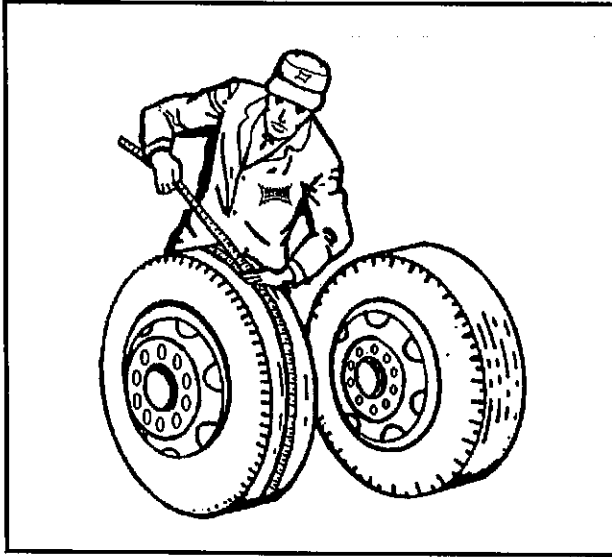

FIG. 6-5 CHECKING TIRE SIZE WITH MEASURING TAPE
a. Measure around each tire on the tread surface. A maximum difference of $3/4$ " in the measurements is allowed between the two mating tires of a dual (See FIG. 6-5).